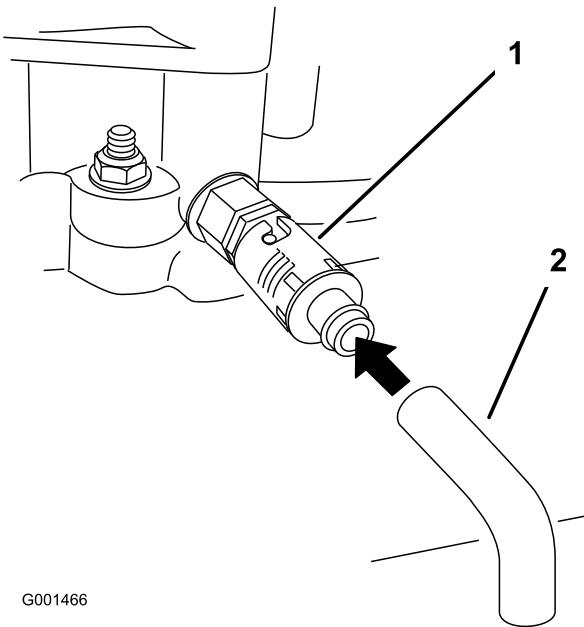

Figure 23
6. Place a pan below the drain hose. Rotate oil drain valve to allow oil to drain (Figure 23).
8. Remove the drain hose (Figure 23).